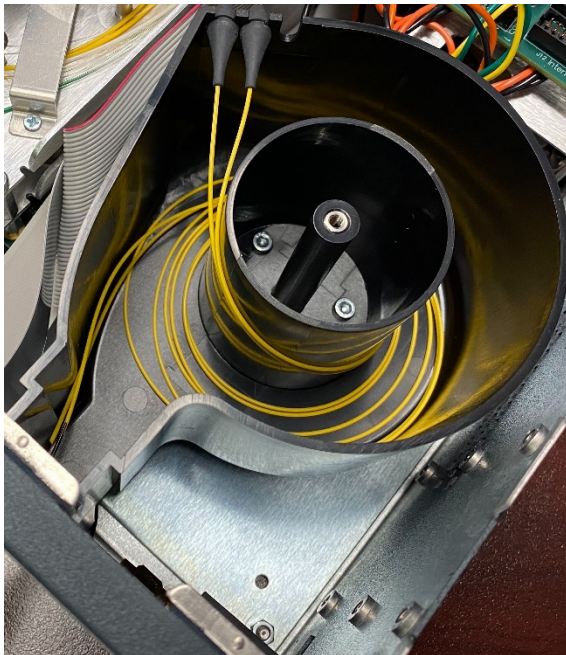
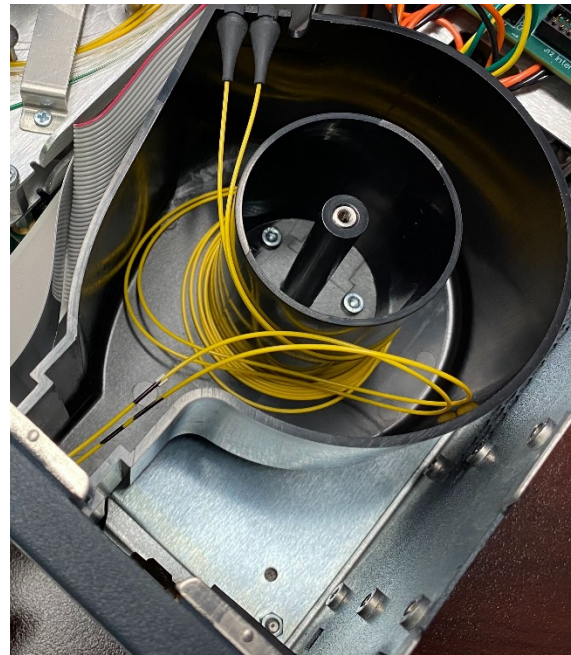

Figure 27: Exposed view of good output fiber management
Figure 28: Exposed view of poor output fiber management
7. Reinstall the output panel with the thumbscrews. To avoid damaging the fibers, keep a clear line of sight to the fiber as it spools back inside the unit. It should lay flat and spool back in without resistance or twisting. Figure 27 shows an exposed view of good output fiber management. Figure 28 shows poor fiber management.